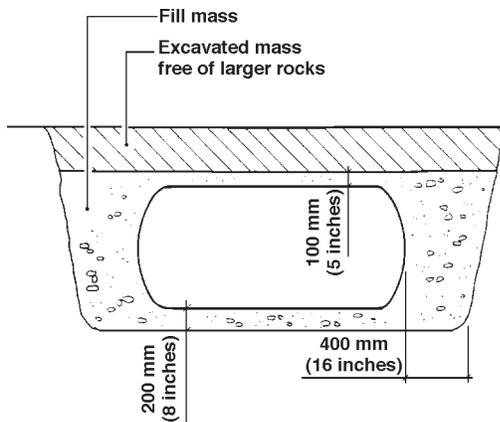

Figure 222
**222** If the cistern is buried as shown in Figure 222, the fill material must be packed in tightly around the tank, especially the lower quarter of the tank. Fill material, such as sand or gravel with a diameter of less than 0.5 in can be used. Mechanically crushed rock must not be used. Nor should fill material that contains frost-susceptible material such as clay be used. If the cistern is subjected to uplift pressure due to a high groundwater table, it must be secured. Avoid placing the cistern where there will be mechanical loads, such as vehicle traffic, on the tank.